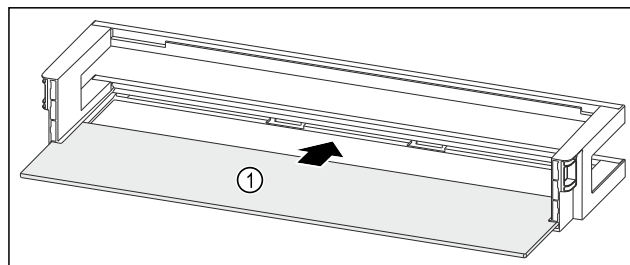

Fig. 277 Door rack with shelf
- Push the shelf Fig. 277 (1) into the side recesses.